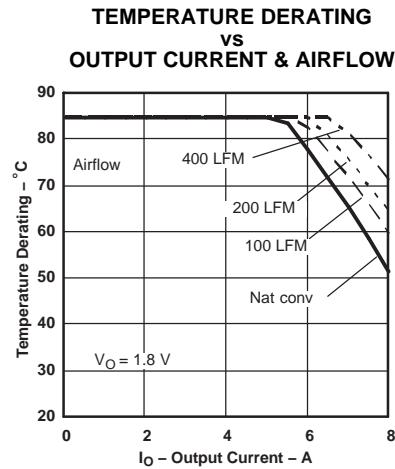

Figure 10.
(11) The temperature derating curves represent the conditions at which internal components are at or below the manufacturer's maximum operating temperatures. Derating limits apply to modules soldered directly to a 100 mm x 100 mm double-sided PCB with 2 oz. copper. Applies to Figure 10.